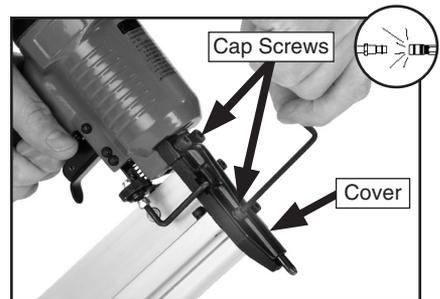

Figure 7. Opening cover to clear a jam.
4. Loosen the cap screws shown in **Figure 7** and remove the cover with a 3mm hex wrench. Dislodge the jammed nail/staple with a pair of needle nose pliers.